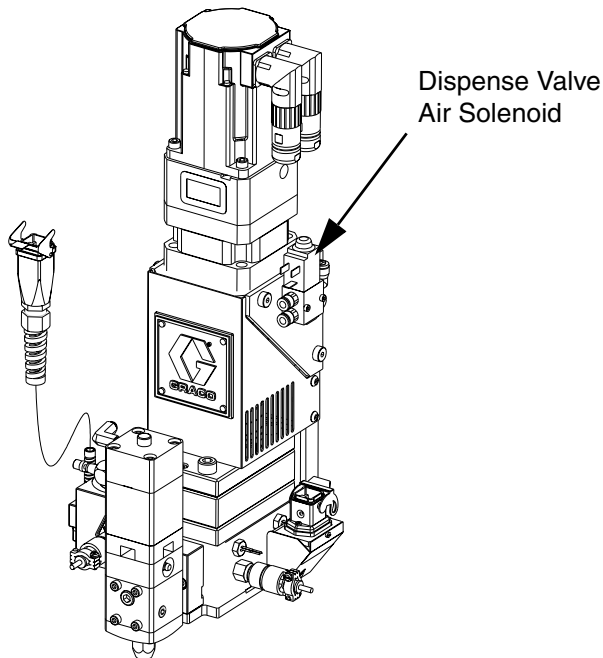

FIG. 22: Dispense Valve Air Solenoid
1. For direct mounted dispense valves, replace o-ring (409) if necessary.
3. Install four mounting bolts (408) torque to 50-60 in-lb (5.6-6.7 N•m).
6. Manually shuttle solenoid, see FIG. 22. Verify dispense valve is open when solenoid is depressed.